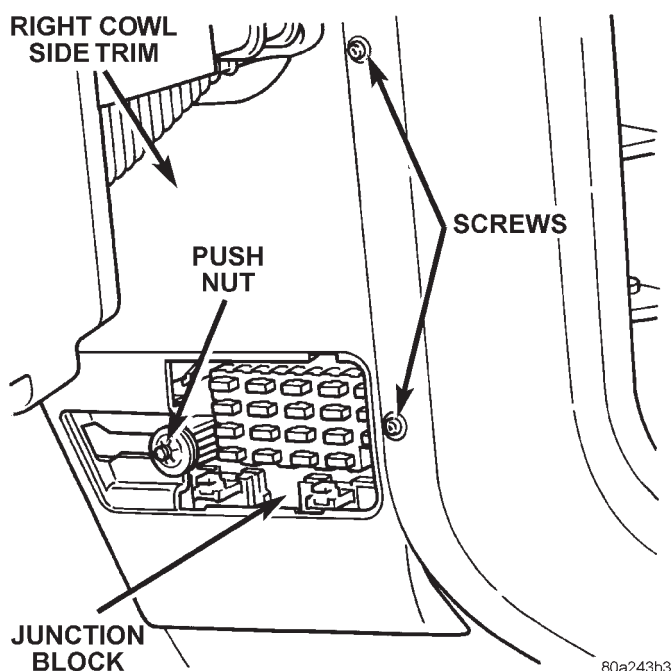

Fig. 23 Right Cowl Side Trim Panel Remove/Install
- (1) Disconnect and isolate the battery negative cable.
- (2) Remove the fuse access panel by unsnapping it from the right cowl side trim panel.
- (3) Remove the push nut that secures the right cowl side trim panel to the junction block stud (Fig. 23).